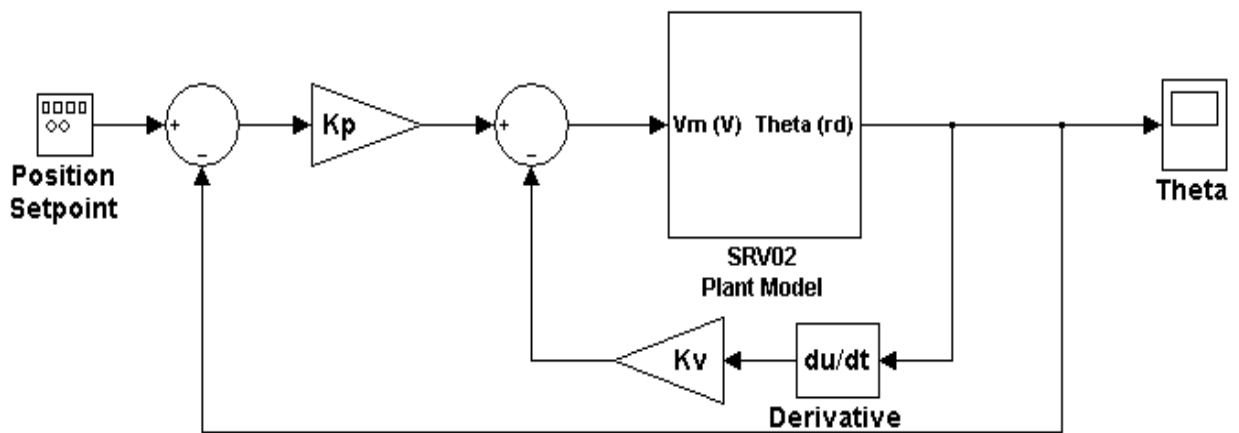

Figure 2 - PV Controller for the SRV02 Plant
With this limitation in mind, we can now make the transition to use a state-feedback (**PV**) approach that can meet our requirements and results in a closed loop transfer function of the form seen in equation [3.10]. The **PV** controller that will be implemented in this lab can be seen in **Figure 2** below and has the form:
- 1) Obtain the transfer function of the closed loop model in **Figure 2**. Extract the characteristic equation and fit it to the form seen in equation [3.11]. Obtain 2 equations expressing ω_n and ζ as functions of K_p and K_v as these are the only 2 variables in your system. Using your newly obtained formulas and referring to your in-class notes, what changes to your response would you expect to see by varying the values of K_p and K_v ?